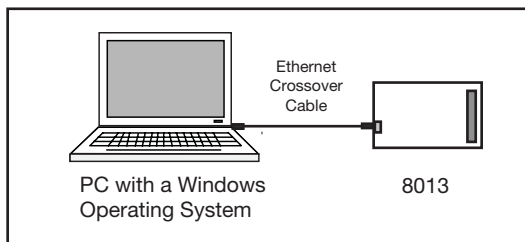

Figure 2-1 8013 Connected to computer with a Crossover Cable
1. Connect the 8003 or 8013 directly to the computer running the browser. Temporarily disconnect the computer from the company network and use the supplied Ethernet Crossover Cable to connect the computer to the board as shown in Figure 2-1. This will eliminate any potential network conflicts while configuring the board.